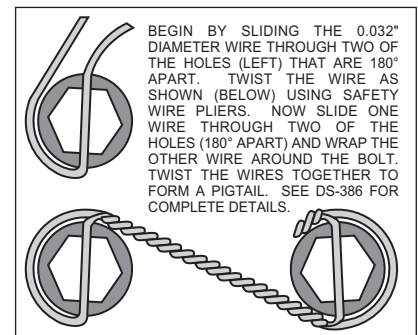

Figure 4. Safety Wire Diagram
- Insert one sleeve (2) each into the holes on the top and bottom of the spindle "ears" where the OEM caliper bracket was removed. Apply red *Loctite*® 271 to the caliper mounting bracket bolt threads (4) before installation of the caliper mounting bracket (1). Install the caliper mounting bracket (1) with the heads of the threaded inserts facing the outside of the vehicle. Slide bolt (4) through lock washer (3) and into the previously installed insert (2) from the backside of the hub. Finger tighten. Repeat for the lower mounting holes. Torque bolts to 47 ft-lb.
- With the larger I.D. side of the rotor (5) facing away from the hat (6), bolt rotor (5) to hat (6) through the backside of the rotor using washers (7) and bolts (8). Torque bolts (8) to 85 **in-lb**. Safety wire bolts (8) using standard 0.032 inch diameter stainless steel safety wire as shown in Figure 4. Please refer to Wilwood's data sheet DS-386 (available at www.wilwood.org/ds386.pdf) for complete safety wire installation instructions. Slide the rotor/hat assembly onto the hub. Install a couple of lug nuts (finger tighten) to keep the rotor/hat assembly in place while continuing with the installation.
- **NOTE:** Please reference the caution statement at the beginning of the assembly instructions. With the bleed screws pointing up, mount the caliper (9) onto the caliper mounting bracket (1) using two bolts (10), two lock washers (11) and two flat washers (12). On the back side of the caliper (9) between the caliper ears and the caliper mounting bracket (1) insert spacer (13) before tightening caliper mounting bolts (10). View the rotor (5) through the top of the caliper (9). The rotor (5) should be aligned in the center of the caliper (9). If not, loosen the two bolts (10) and adjust the caliper (9) by using 0.030 inch thick shim washers (12). The shim washers (12) should be placed between the caliper (9) and the caliper mounting bracket (1). Finger tighten and recheck alignment. Add as many shim washers (12) as necessary to achieve the correct alignment. Always use the same amount of shims on both the top and bottom caliper mounting bolts (10). Loosen the two bolts (10) and apply red *Loctite*® 271 to bolt threads (10) and torque to 47 ft-lb. Safety wire the two bolts (10).
- Remove the caliper bridge bolt and install the disc brake pads (14) then reinstall the caliper bridge bolt. Repeat this procedure for the other wheel.